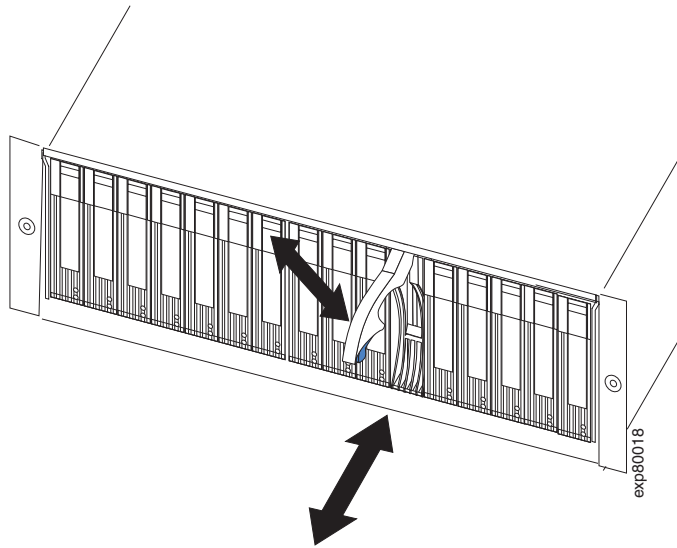

Figure 21. Removing a E-DDM CRU
4. Pull the E-DDM out of the bay, as shown in Figure 21 on page 40.